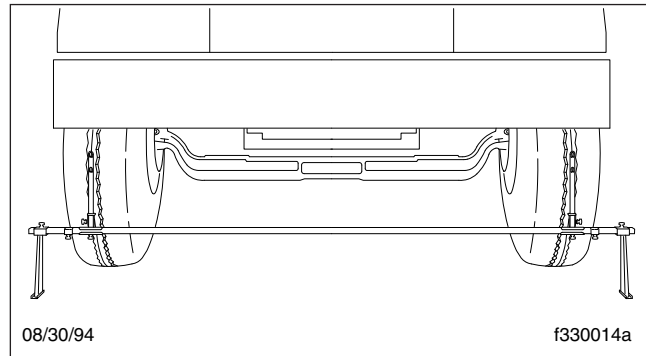
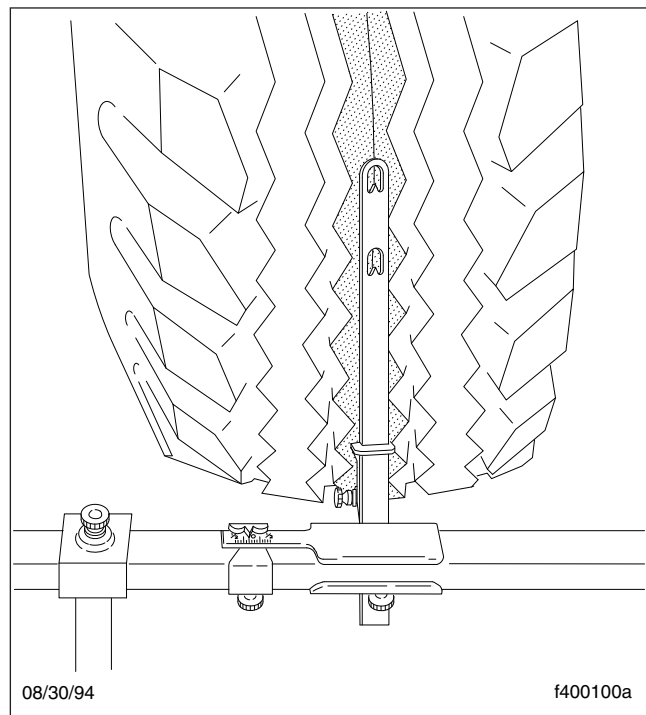

Fig. 8, Trammel Bar Positioning
Fig. 9, Setting Trammel Bar Pointers
7. Place the trammel bar at the front of the tires (see Fig. 8) and adjust the scale end so that the pointers line up with the scribe lines. See Fig. 9.